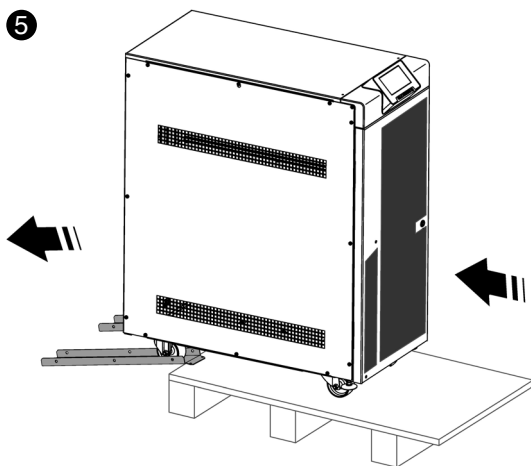

Fig. 26. Lowering the equipment from the pallet.
- ⑤ Proceed to lower the equipment from the pallet (Fig. 26).